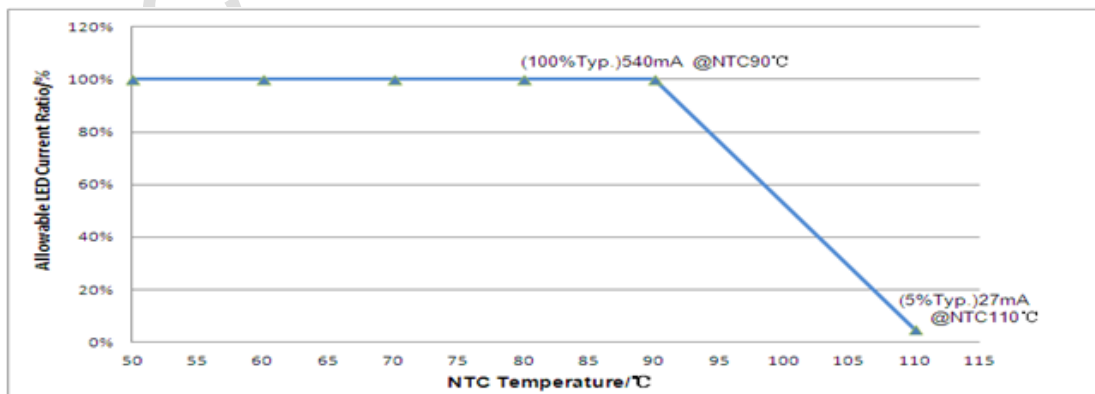

Figure 14 Backlight Current De-rating Curve
Note (7) LED forward current should follow the current of LED vary with environmental temperature (Figure 14 Backlight De-rating Curve)